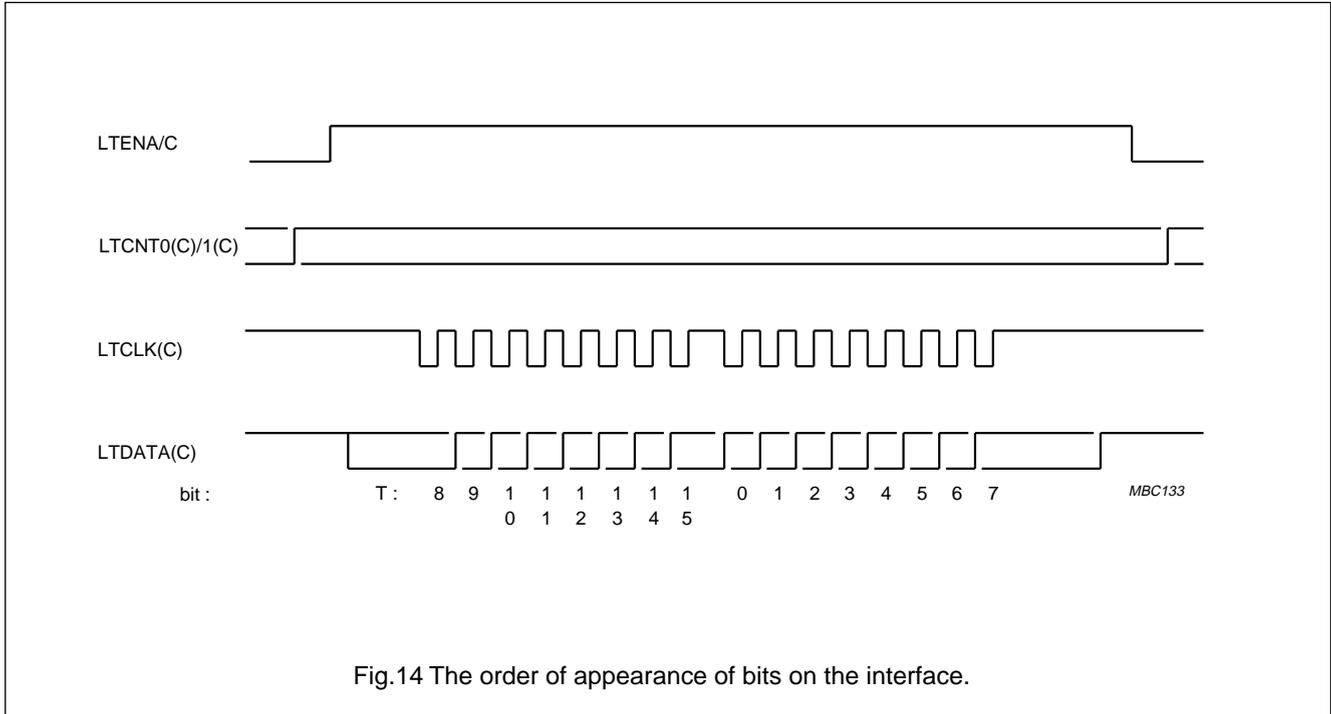

Fig.14 The order of appearance of bits on the interface.
**Table 9** Order of SAA2002 bits as they appear on the interface (see also Fig.14).